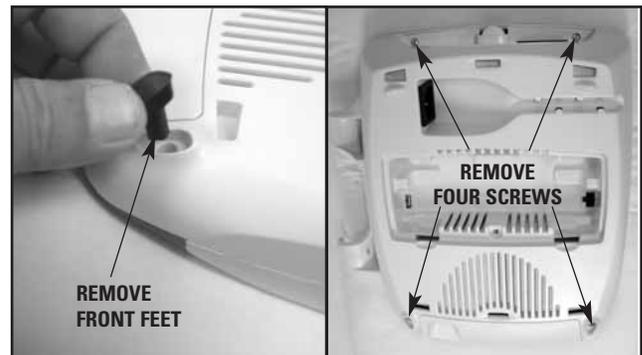

FIGURE 6.3
6. Remove the two front feet from the system to gain access to the two front screws. See Figure 6.3.
7. Remove the four mounting screws from the bottom housing using the #1 Phillips Screwdriver. See Figure 6.3.